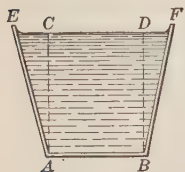

FIGURE 49.—Only the column  $ABCD$  exerts pressure on the bottom.
**36. Pressure Independent of Shape of Vessel.** — If a cubic foot of water is poured into a tank with sides sloping outward and with a small horizontal bottom (Figure 49), it follows that the total liquid pressure on the bottom will be much less than 62.5 lbs, for it will be only the weight of the column of water directly above the bottom. The rest of the weight will be supported by the flaring sides.